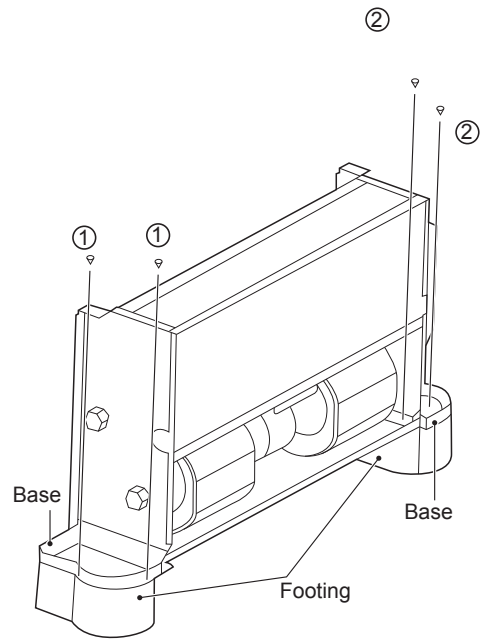

Figure 5-3
The footings shown in Figure 5-3 are optional. You can purchase them separately and install them as follows:
2. Place the mounting holes on the unit base into the corresponding footing locating pin and install screws 1\*2 and 2\*2 to fix the footing according to Figure 5-3.